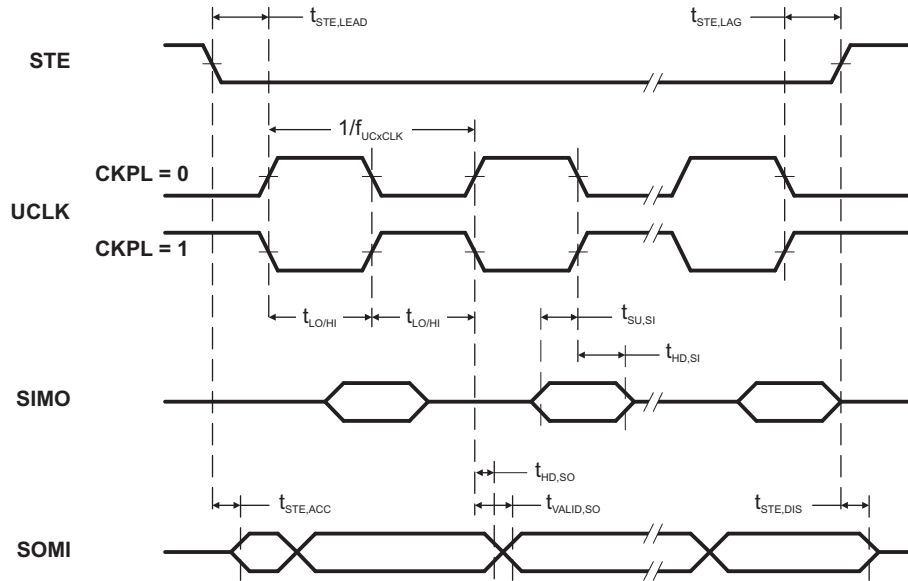

Figure 14. SPI Slave Mode, CKPH = 0
(see Figure 14 and Figure 15)
- (2) Specifies the time to drive the next valid data to the SOMI output after the output changing UCLK clock edge. See the timing diagrams in Figure 14 and Figure 15.
- (3) Specifies how long data on the SOMI output is valid after the output changing UCLK clock edge. See the timing diagrams in Figure 14 and Figure 15.